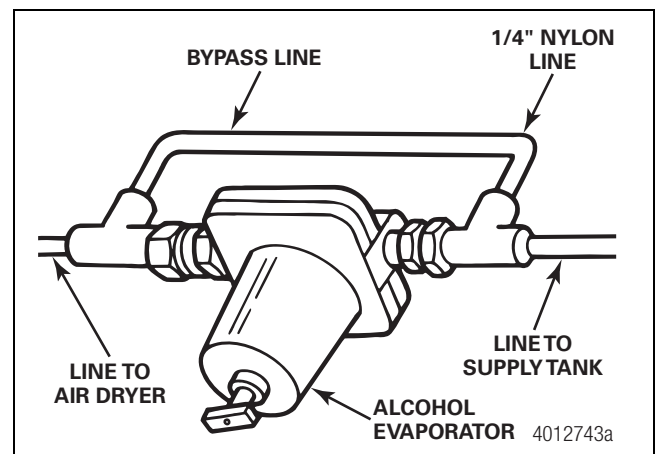

Figure 18
- Install a bypass line around the alcohol evaporator, so that air can flow freely from the supply tank to the dryer. Figure 18.